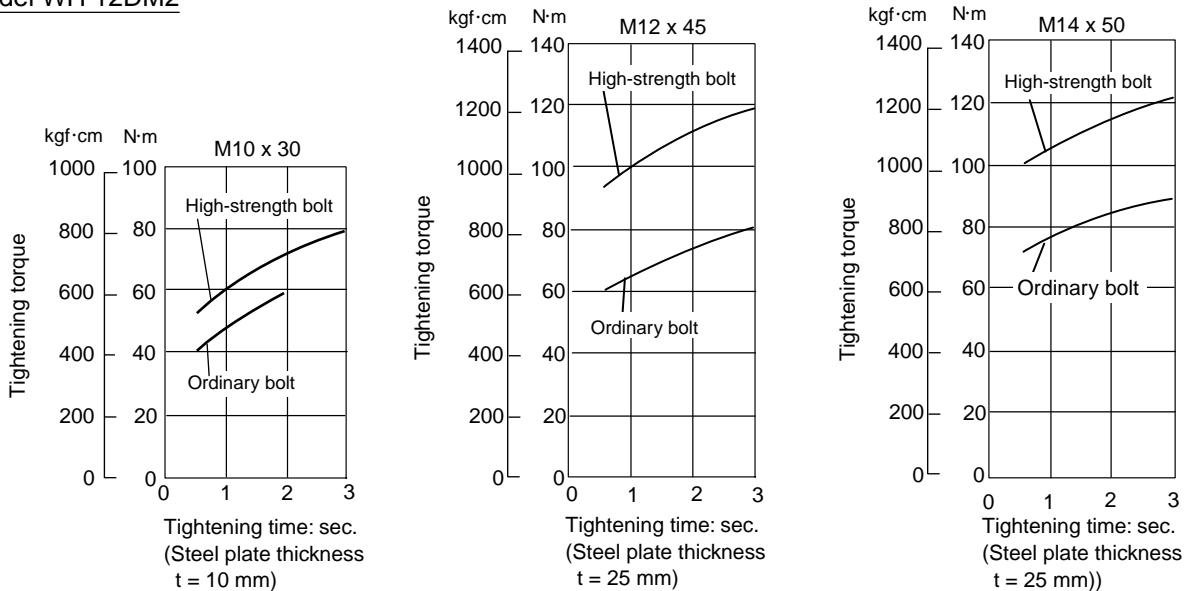

Fig. 6-1
Figures. 6-1 and 6-2 show relationships between time and tightening torque for individual bolt types and sizes. While the data are useful for handy reference, actual tightening torque will vary depending on tightening conditions and other variables. For details, please refer to Para. 8-3, "Tightening Torque Variation".
- In the tightening conditions shown in Figs. 6-1 and 6-2, the screws are being tightened directly into a steel plate; accordingly, the torque goes up very abruptly in comparison with ordinary bolt tightening conditions.